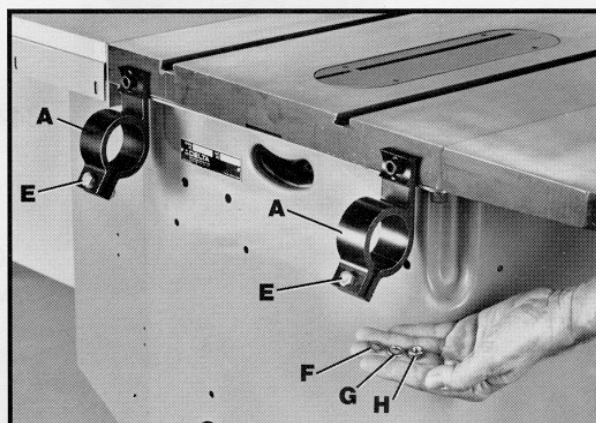

Fig. 4
6. Assemble the two 1-1/2 inch-long hex head cap screws (E) Fig. 4, flat washers (F), lockwashers (G) and hex nuts (H) to the two support arm holders (A). **DO NOT COMPLETELY TIGHTEN HARDWARE AT THIS TIME.**